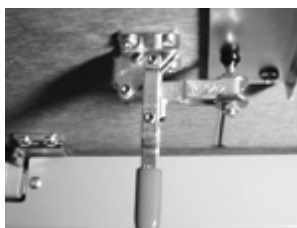

Fig. 6
8. As shown in Fig. 6, 7, insert removable table to Bracket in order of right, left and center (last time) and slide it deep inside. Fix set screws on each Table.